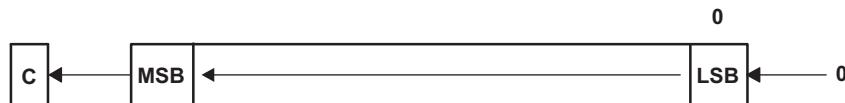

Figure 4-44. Destination Operand-Arithmetic Shift Left
Description	The destination operand is shifted left one position as shown in Figure 4-44 . The MSB is shifted into the carry bit (C) and the LSB is filled with 0. The RLAX instruction acts as a signed multiplication by 2.